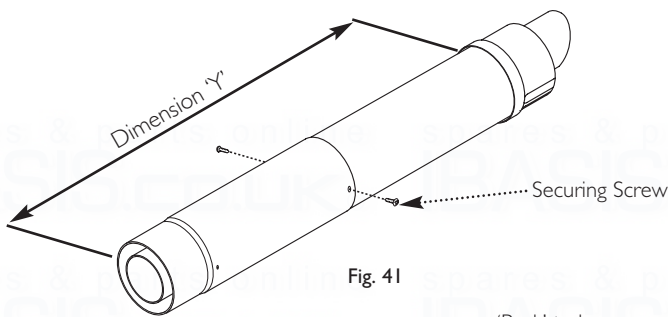
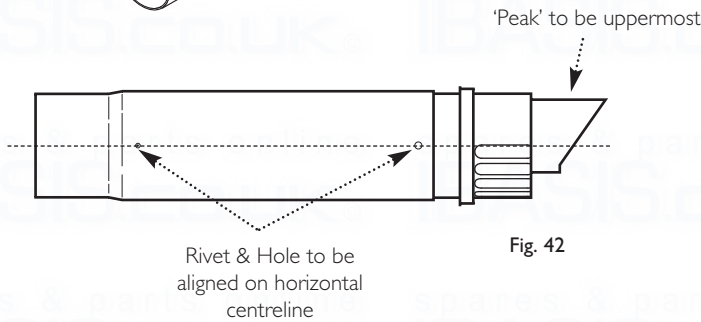
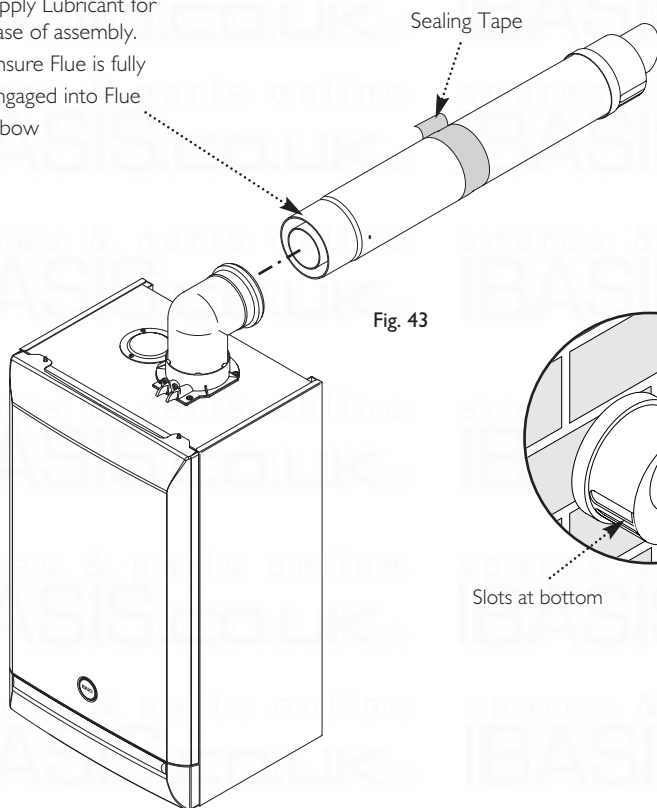

Fig. 41
Fig. 42
Fig. 43
8. Adjust the two telescopic sections to dimension 'Y' (Fig. 41). Ensure that the rivets and holes in the Connection Assembly are aligned horizontally (Fig. 42).
9. Using a 2mm bit, drill through the holes at the end of the Connection Assembly into the Terminal Assembly and secure them together using the screws supplied (Fig. 41). Seal the joint with the tape provided (Fig. 43).
11. Draw the flue back through the wall and engage it in the elbow. It may be necessary to use soap solution or similar to ease assembly of the elbow adaptor and flue (Fig. 43).